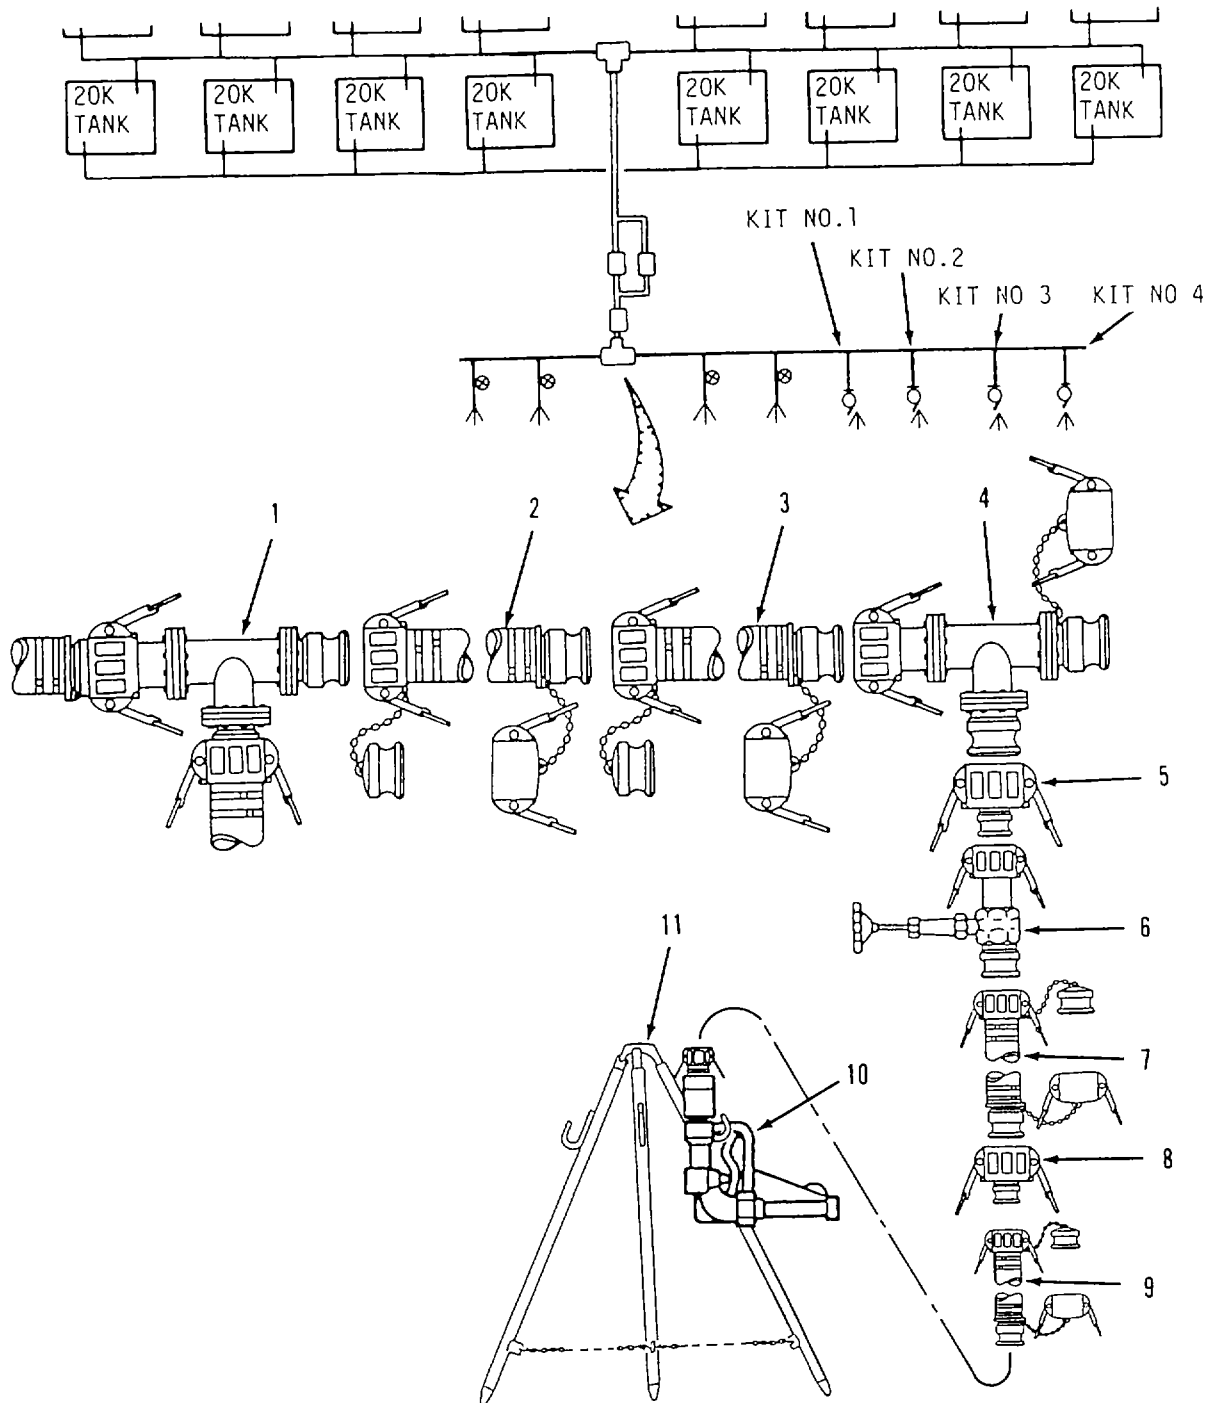

Figure 2-28. Hose Nozzle Connection Kit Disassembly.
- (14) Disconnect 4 inch x 20 foot discharge hose (3) from 4 inch x 20 foot discharge hose (2).
- (15) Disconnect 4 inch x 20 foot discharge hose (2) from tee (1) (from hose nozzle connection kit no 4).
- (16) Drain and allow components to dry.
- (17) Install caps and plugs on component couplings (para 2-10c).
- (18) Roll all discharge hoses and secure with tape.
d. Disassemble Hose Nozzle Connection Kits. Refer to figure 2-28.**WARNING**